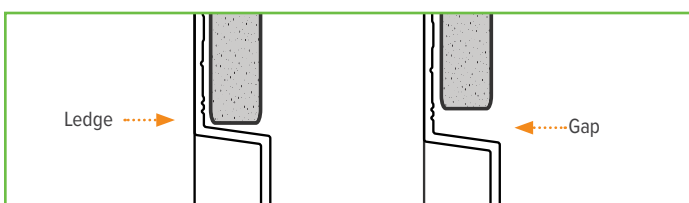

Figure 15.3
**NOTE:** Some panel manufacturers require a gap between the ledge of the horizontal and the bottom edge of the panel. Reference your panel manufacturer's install info requirements. (Example: Figure 15.3).